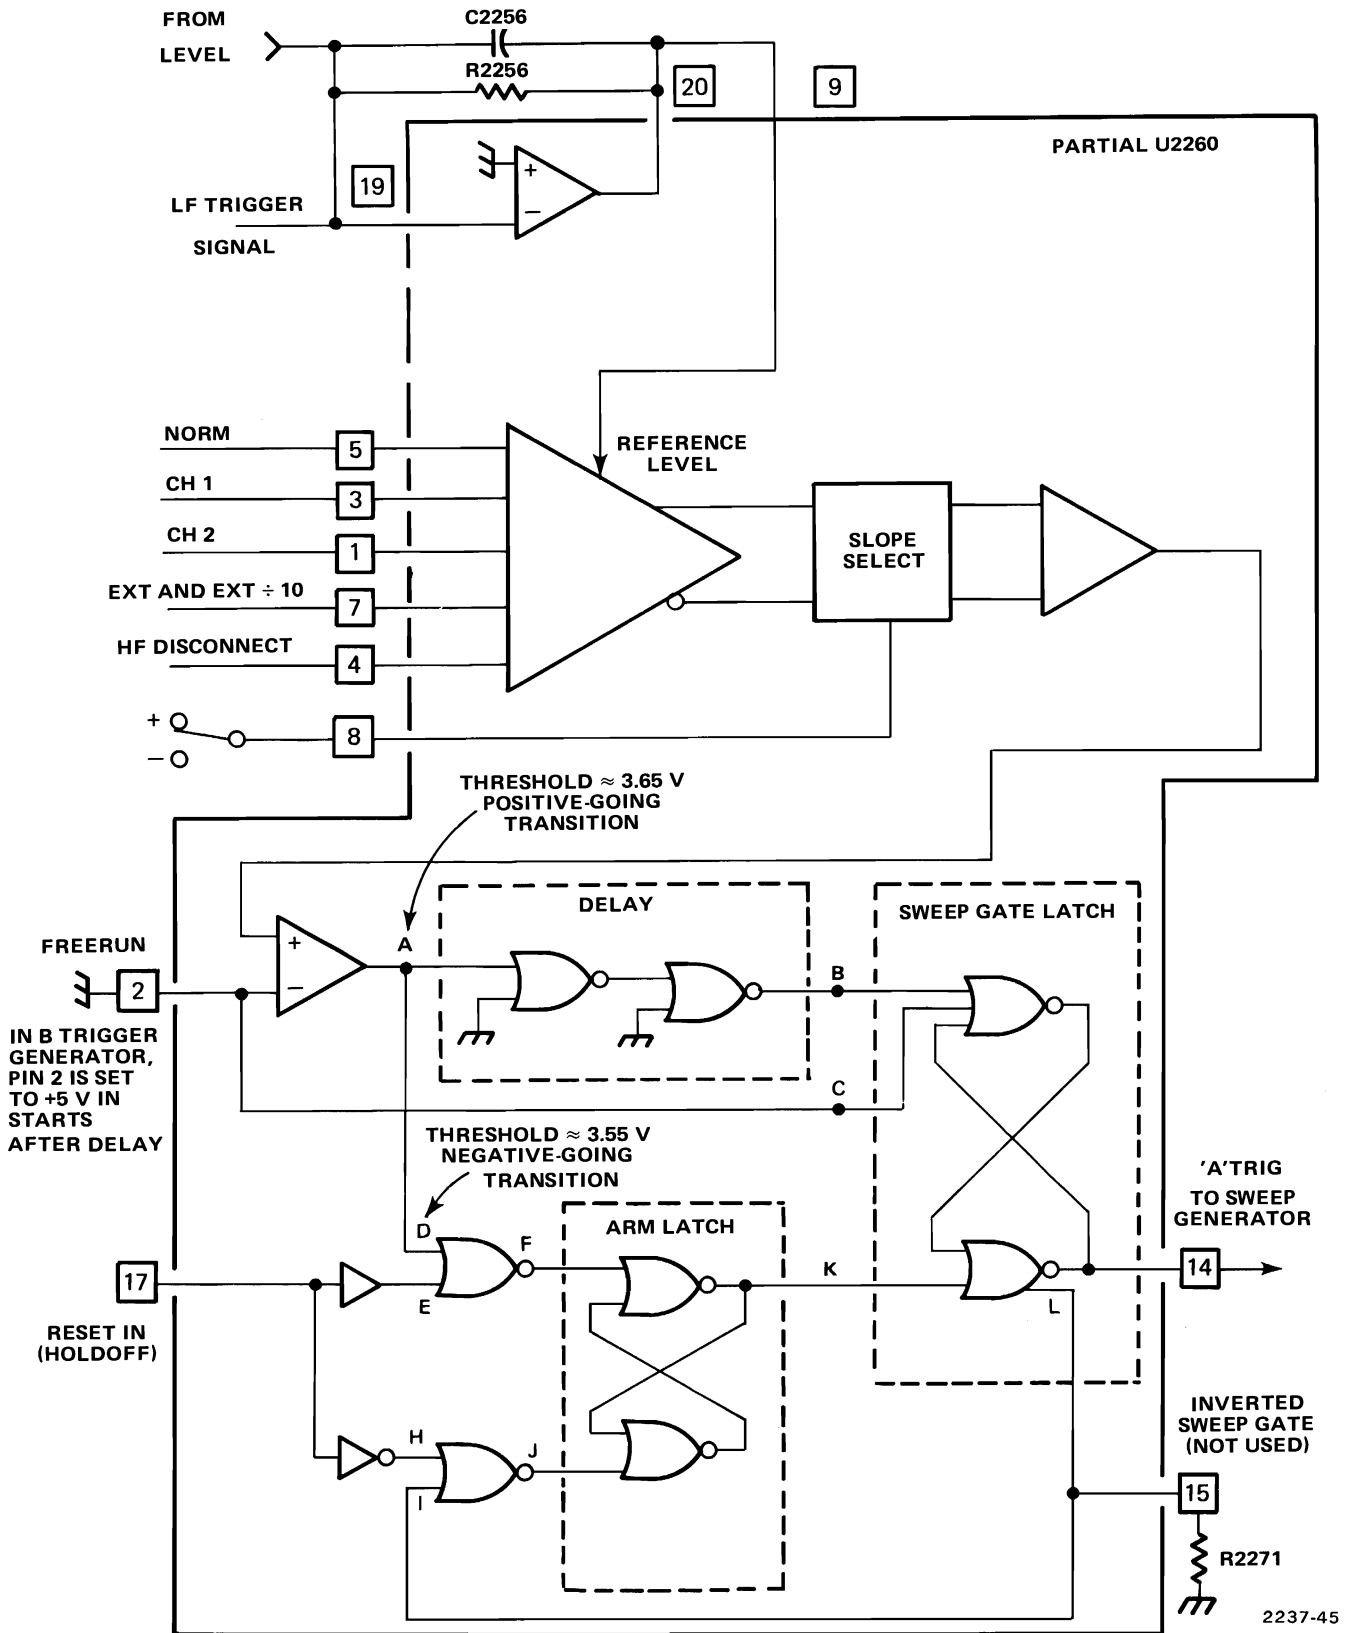

Figure 4-5. A trigger generator.
**(3) B Trigger Generator.** The B Trigger Generator operates in the same manner as the A Trigger Generator except in the STARTS AFTER DELAY position of the HORIZ DISPLAY switch. In the STARTS AFTER DELAY mode, +5 volts is connected to pin 2 of U2160 through S2100 and S2650 (see Figure 4-5). This disconnects the trigger signal from point B, sets point D LO, and sets point C HI. At the end of holdoff, point E goes LO causing point F to go HI. This sets point K LO and, because of the HI always present on point C, causes a sweep gate to be generated.